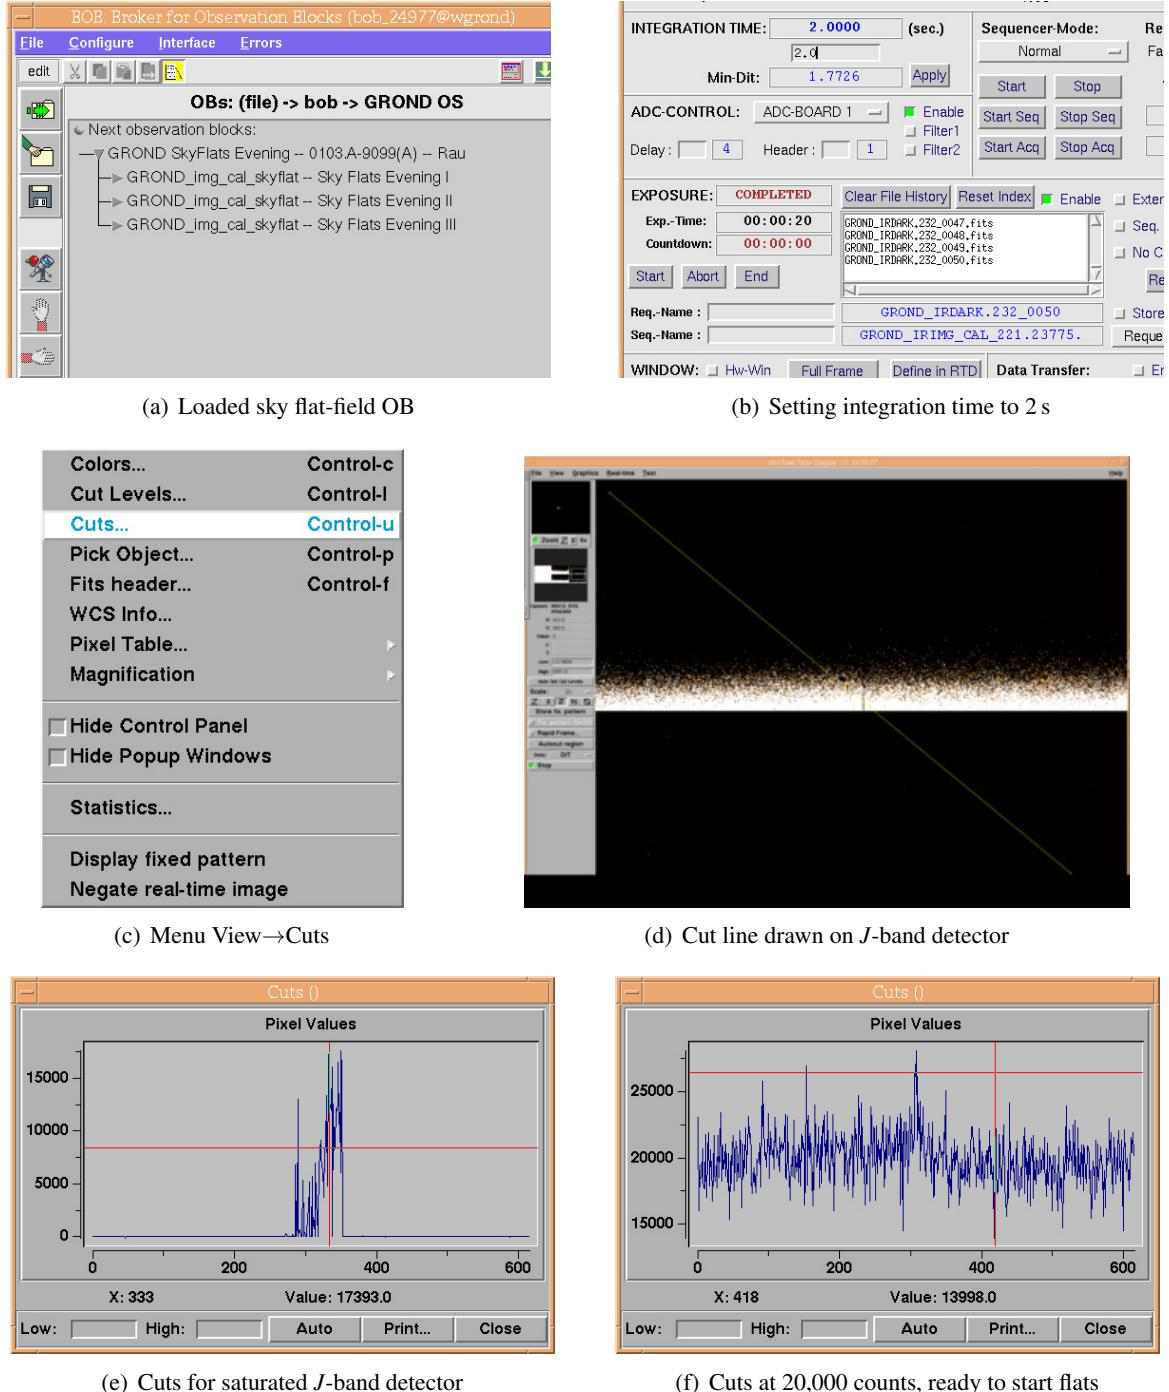

Figure 5.2: GROND evening sky flat fields.
- G. Get **sky flat fields OB** ready (Fig. 5.2(a), p. 51)
- H2. Set the IR integration time to 2 s (Fig. 5.2(b), p. 51).
- Use window menu View→Cuts..., then click OK on the pop-up (Figures 5.2(c)–5.2(d)).
- H4. Wait for the cuts to look flat and with about 20 000 counts. (Figures 5.2(e)–5.2(f))